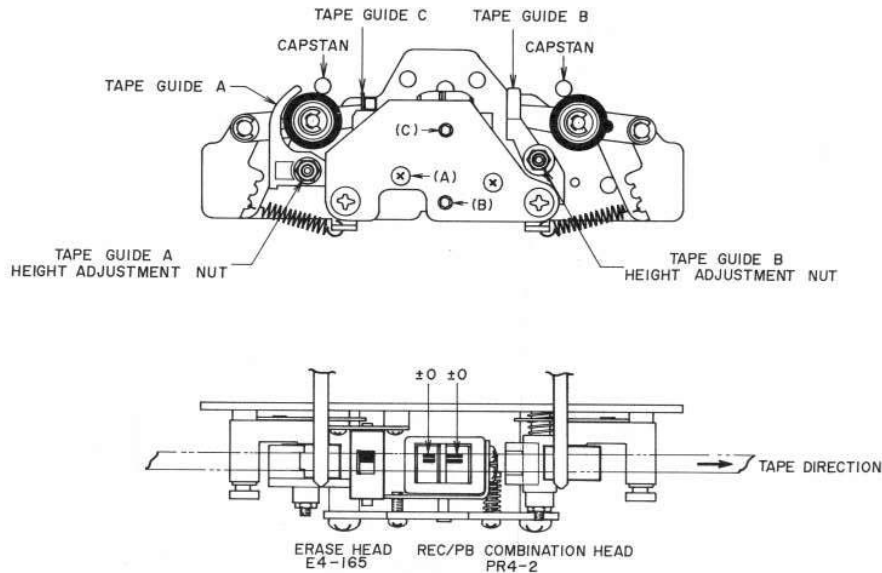
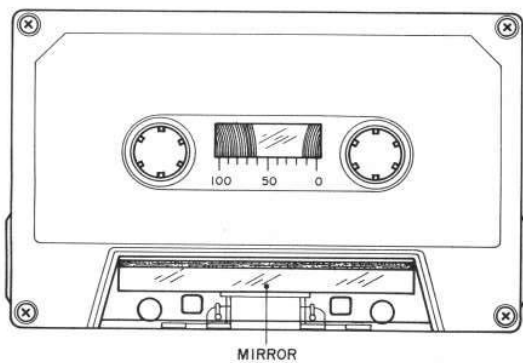

Fig. 11
Fig. 12
(See Fig. 11 and Fig. 12)
- 1) When using an ordinary cassette, the tape guides and heads, etc. are not visible. As shown in Fig. 12, use a cassette tape from which part of the cassette case has been cut out and a mirror installed for easy visibility of the head area when making tape guide height adjustment.
- 2) At playback mode, using erase head tape guide shown in Fig. 11 as standard for height, adjust tape guide A and tape guide B height with tape guide height adjustment nut so that the tape runs smoothly and does not catch on the tape guides.
(See Fig. 11)
- 2) As shown in Fig. 11, adjust head height with screws (A) (B) and (C) until the upper edge of the tape is the same height as the upper edge of the left channel REC/PB Comb. Head core.
COMBINATION HEAD (See Fig. 11)
- 1) Playback a 10 kHz pre-recorded cassette azimuth alignment test tape and adjust screw (A) to obtain maximum output on both channels.
- 4) Set Monitor Switch to TAPE position and adjust screw (A) shown in Fig. 11 to obtain maximum output on both left and right channels.
- d. Supply a 5 kHz signal to terminal (13) shown in Fig. 11 and obtain a -20 dBm line output level.